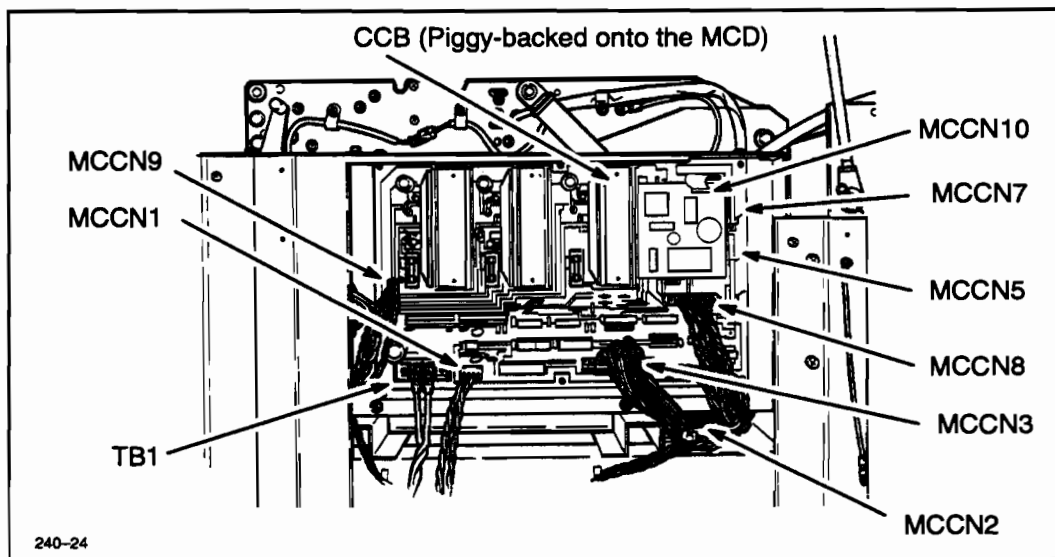

Figure 6-34. MCD PCA Removal
6. Remove MCD PCA connectors MCCN1, MCCN2, MCCN3, MCCN8, and MCCN9. See Figure 6-34. On Models 250/255 connectors MCCN5 and MCCN7 must also be removed.